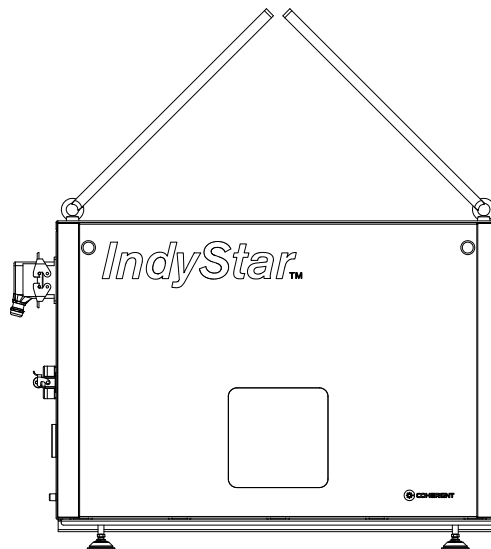

Figure 29: Attaching the lifting slings
2. Guide the slings at an angle of 45° or more to a lifting hook above the laser device (see Figure 29).